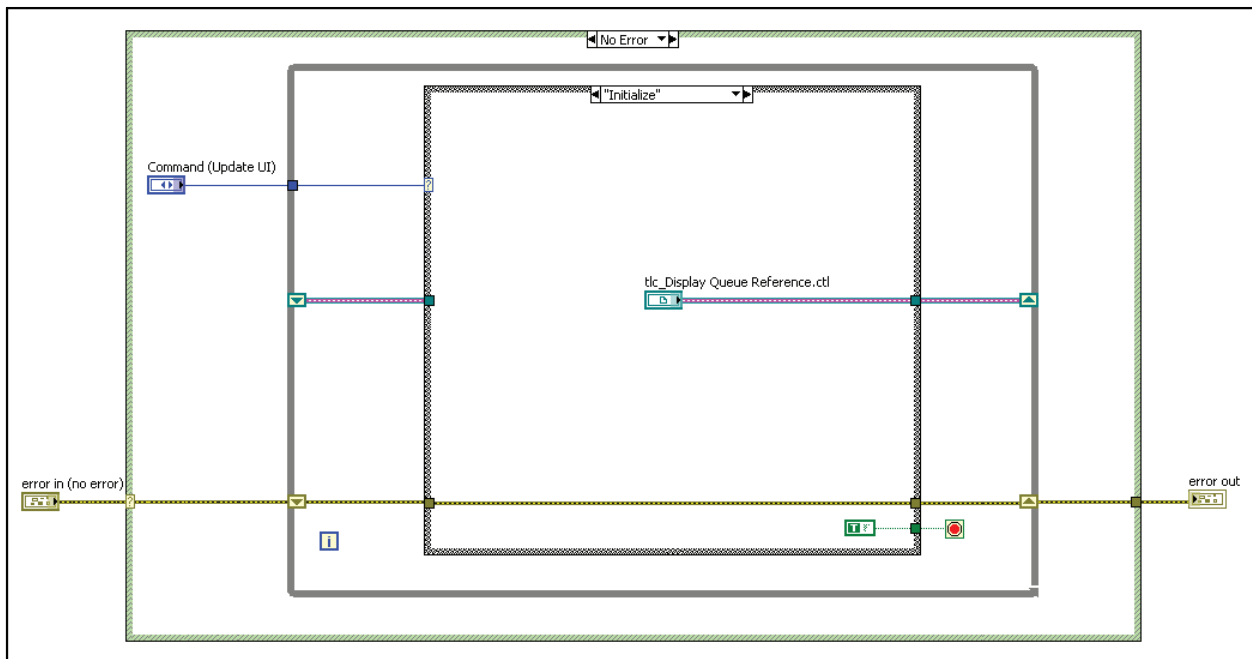

Figure 6-12. Display Module Initialize Case
3. Complete the Initialize case as shown in Figure 6-12 by adding a shift register. The Initialize case stores the queue reference in a shift register.